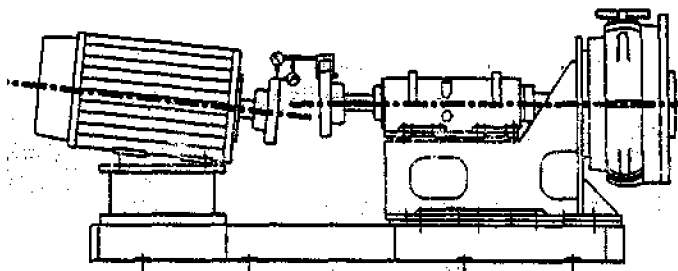

FIG.6A
3. **NEGATIVE READING** - The coupling halves are further apart at the bottom than the top. Correct by either raising the driver feet at the shaft end (add shims) or lowering the driver feet at the other end (remove shims), (Fig. 6A).